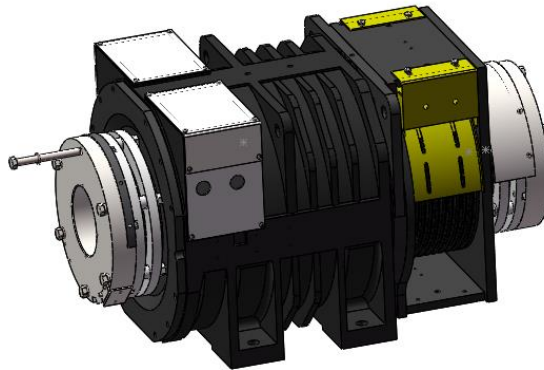

Figure 53: Final Bolt installation
9. Remove the threaded rodM16x320; tighten remaining bolt M16x165 and lock washer 16. See Figure 53.